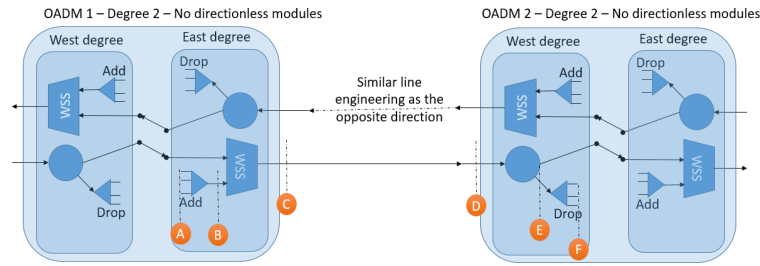

Figure 3: Diagram of a WDM link with no amplification.
- Fig. 3 shows a diagram with the steps that follows a primary lightpath traversing a single WDM link in the current network design.
Fill in the following table, indicating the lightpath power at the different points **A**² to **F**³ in Fig. 3, observing the information in the **Lightpaths** table, and the information on the attenuations added by the different elements inside the nodes, already configured.